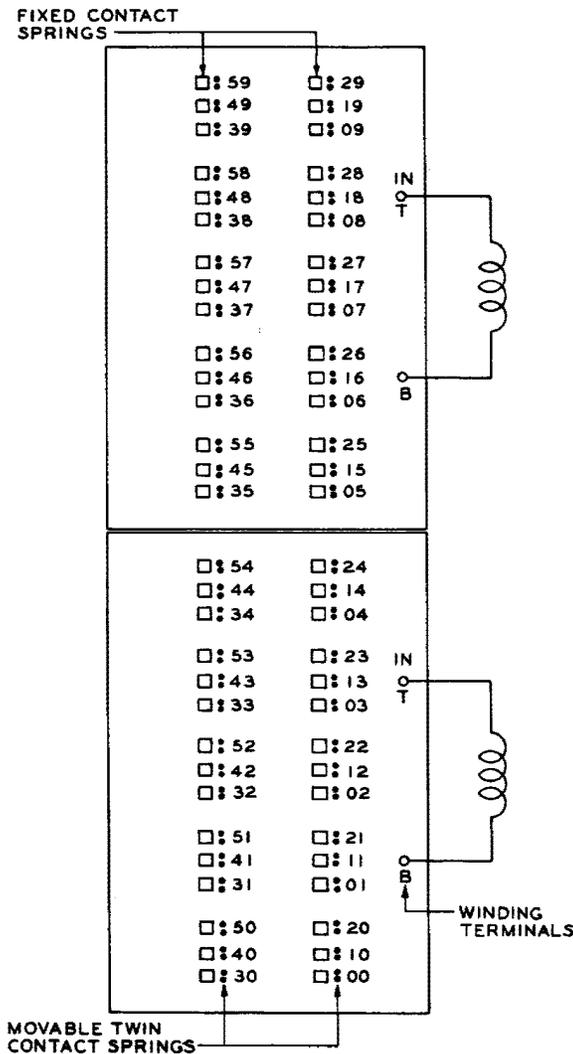

Fig. 59 — Winding and Contact Spring Arrangement as Viewed From the Front (contact side) — 287- and 288-Type Relays
(1) As viewed from the front of the relay, there are 60 make contact positions arranged in two vertical rows of 30 positions each. Each vertical row is divided into ten groups of three positions. Each position has a single fixed contact spring and movable twin contact springs. The movable twin contact springs are at the right of their associated fixed contact springs. The contact arrangement and the numbering of the contact springs are shown in Fig. 59.
(2) Referring to the figures, all contact positions are designated by 2-digit numbers. The ten groups of three contact positions in